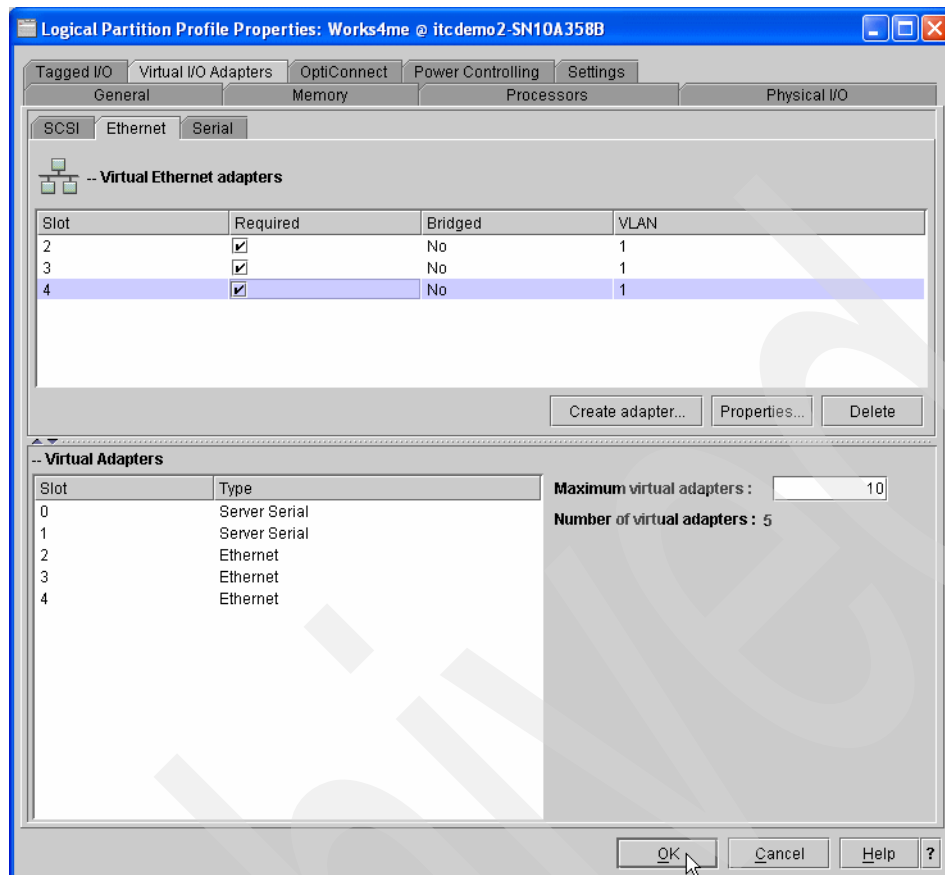

Figure 8-11 Creating Virtual Ethernet resources - 3
6. To create additional Virtual Ethernet resources, simply repeat the same procedure. For example, we want to create two more Virtual Ethernet resources, using the same VLAN ID, so that three nodes can communicate on the same Ethernet network. Therefore, we create a second Virtual Ethernet resource on VLAN 1 using the next available slot (3), and a third Virtual Ethernet resource on VLAN 1 using the next available slot (4). We end up with three Virtual Ethernet resources, all using VLAN 1 as shown in Figure 8-11 on page 321.